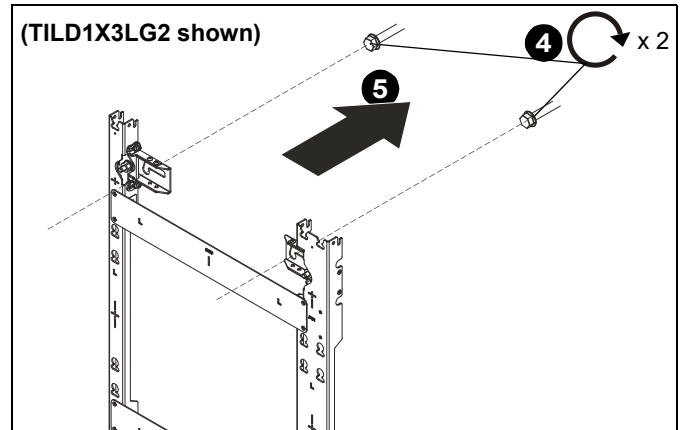

Figure 9
4. Partially install two lag screws into wall, but do NOT completely tighten to wall. (See Figure 9)
5. Hang wall mount, aligning upper mounting slots over fasteners, and adjust side-to-side for proper location, but do NOT completely tighten to wall. (See Figure 9)